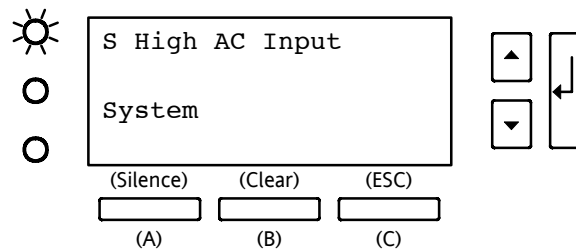

Figure 61. Typical System Active Alarm Display
Figure 61 shows a typical alarm display. Alarms are annunciated by a constant Alarm LED and a constant beep. During alarm display, button (A) silences the audible alarm, button (B) clears the alarm display, and button (C) performs the normal Escape function to exit from the alarm display. The \downarrow button enables you to scroll through all alarms.